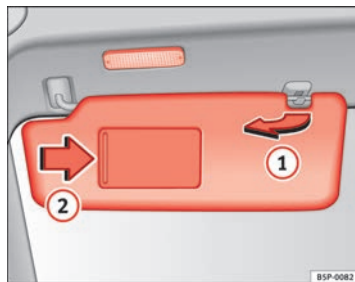

Fig. 80 Sun visor on the driver side
The sun visors for the driver and the front passenger can be pulled out of their mountings in the centre of the vehicle and turned towards the doors ⇒ fig. 80 ①